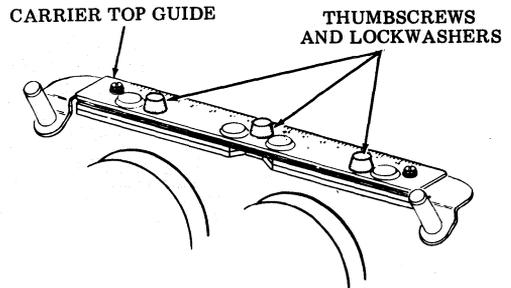

Fig. 38—Top Guide
(c) On late design units (carrier top guide secured to backup bar with three thumbscrews), remove the carrier top guide (Fig. 38).
- (b) Remove three thumbscrews and lockwashers securing carrier top guide and remove guide (guide not present on 132-column) (Fig. 38).